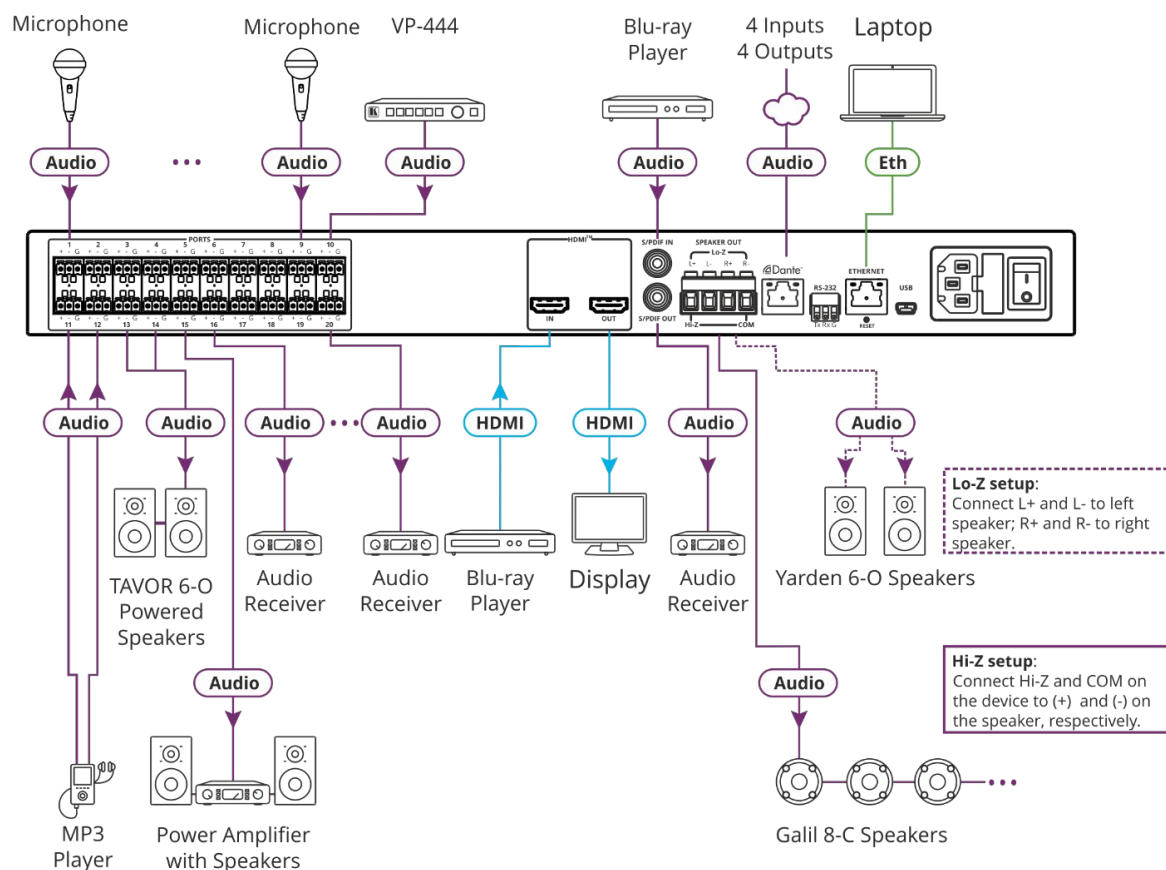

Figure 6: Connecting to the **AFM-20DSP** Rear Panel
To connect **AFM-20DSP** as illustrated in the example in Figure 6:
- A source (for example, a Blu-ray player) to S/PDIF IN (12).
- S/PDIF OUT (10) to an acceptor (for example, an audio receiver).
5. Connect the SPEAKER OUT Hi-Z OUT or Lo-Z OUT 4-pin terminal block connector (13) as follows:
6. Connect the Dante RJ-45 port (14) to up to 4Tx and for Rx audio channels via the network.
7. Connect the RS-232 3-pin terminal block connector (15) to the RS-232 port on a controller (for example, a laptop) to control the **AFM-20DSP**.
8. Connect the ETHERNET RJ-45 port (16) to the Ethernet to control the **AFM-20DSP** and use for firmware upgrade.
9. Connect the mini USB connector (17) to a control device (for example, a laptop) to control the **AFM-20DSP**.
10. Connect the power cord to the **AFM-20DSP** mains socket (19) and to the mains electricity (not shown in Figure 6).
5. Connect the USB (8) to a computer such as a laptop
6. Connect the SPEAKER OUT Hi-Z OUT or Lo-Z OUT 4-pin terminal block connector (13) as follows:
7. Connect the Dante RJ-45 port (14) to up to 4Tx and for Rx audio channels via the network.
8. Connect the RS-232 3-pin terminal block connector (15) to the RS-232 port on a controller (for example, a laptop) to control the **AFM-20DSP**.
9. Connect the ETHERNET RJ-45 port (16) to the Ethernet to control the **AFM-20DSP** and use for firmware upgrade.
10. Connect the mini USB connector (17) to a control device (for example, a laptop) to control the **AFM-20DSP**.
11. Connect the power cord to the **AFM-20DSP** mains socket (19) and to the mains electricity (not shown in Figure 6).